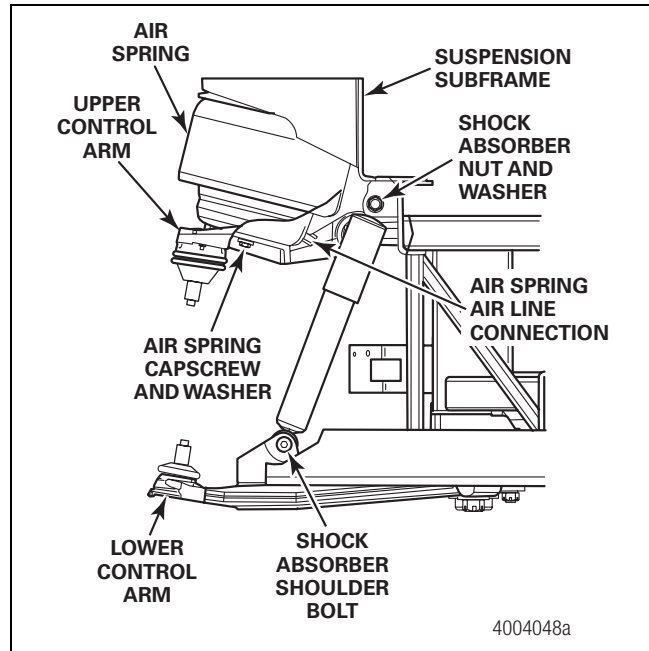

Figure 7.16
1. Position the shock absorber and install the upper shock absorber shoulder bolt, nut and washer. Tighten the nut to 270-350 lb-ft (366-474 N•m). Figure 7.16.